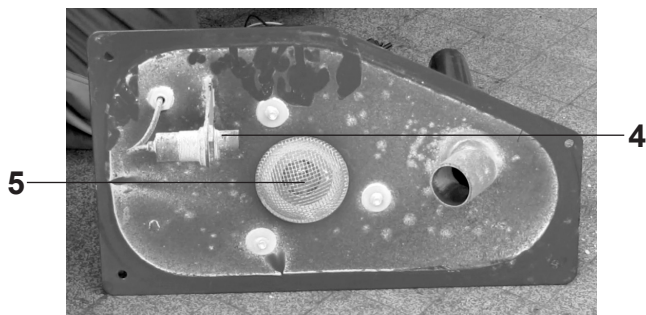

Fig. 14
4. Clean filling level sensor (4, Fig. 14) and inspect the sensor cable for damage.
5. Clean the grille of the suction turbine (5).